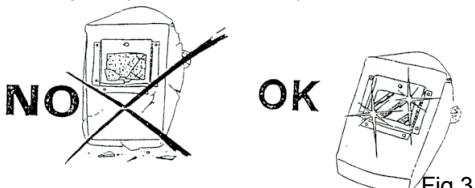

Fig.3
- Glass screens must always be kept clean, and immediately replaced if they are broken or cracked (Fig.3). It is good practice to install a pane of transparent glass on top of the adiactinic glass, between it and the welding area to protect it from molten and hard parts and arc rays. This pane can be frequently replaced when incandescent spatters and deposits greatly reduce visibility.